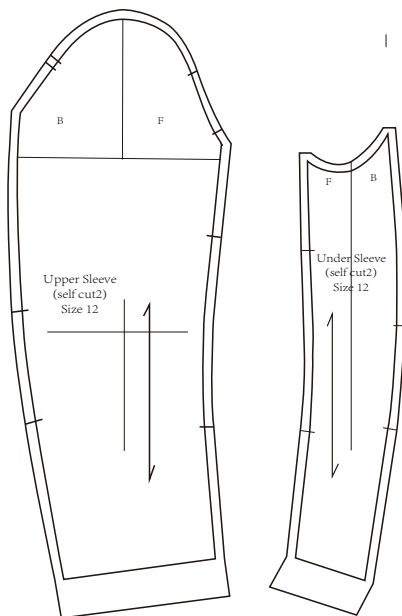

Fig.31
- (Fig.31) These are the sleeve pattern after modification.